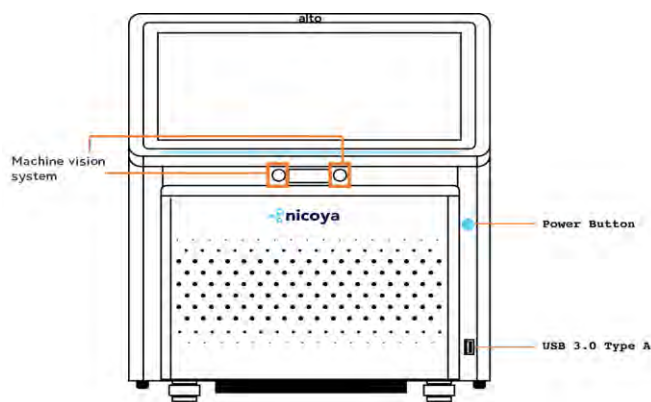

Figure 3.2: Power button, USB ports and machine vision system are located on the front of the instrument.
1. The front of the instrument contains a soft power ON/OFF button as well as a USB port (Figure 3.2). The machine vision system is also highlighted in Figure 3.2. The machine vision system in the software will detect any obstacles or issues with the cartridge loading and alert the user about the same in the software.